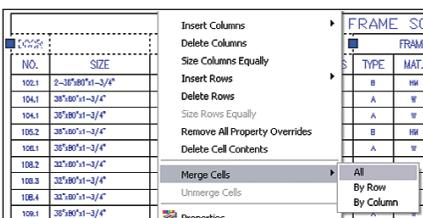

Figure 5. Click in a table cell to manipulate its format.
5. Right-clicking also allows you to merge cells, add and delete rows, and so forth (Figure 5). You can use grips to modify the table location, column width, and row height.